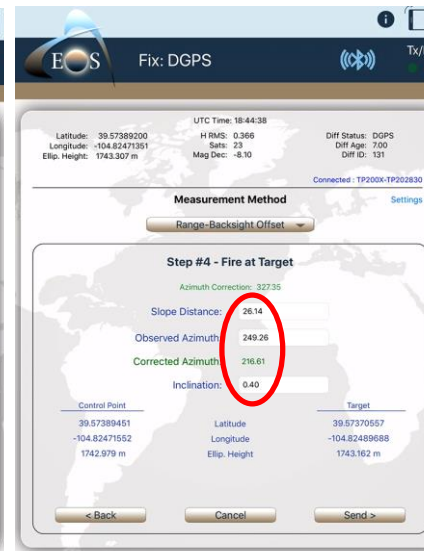

Figure 15B
- 15B. Multiple features may be mapped from this Control Point by returning to **Step #4** of the Range-Backsight screens, shooting in the next target (Figure 15B) Confirm the data comes through and tap **Send** to deliver the coordinates to Collector